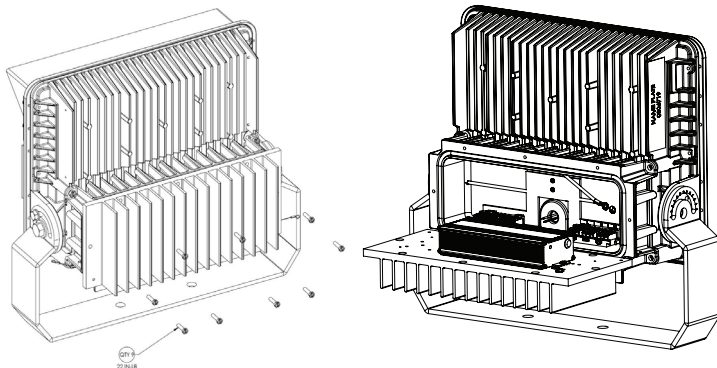

Figure 1
1. Open back cover/heat sink by loosening nine (9) #10-24 x 0.75" stainless steel cover bolts using a 5/8" nut socket or flat head screwdriver (see Figure 1). The heat sink cover should be removed by pulling back on one corner of the top most edge to prevent damage to gasket.